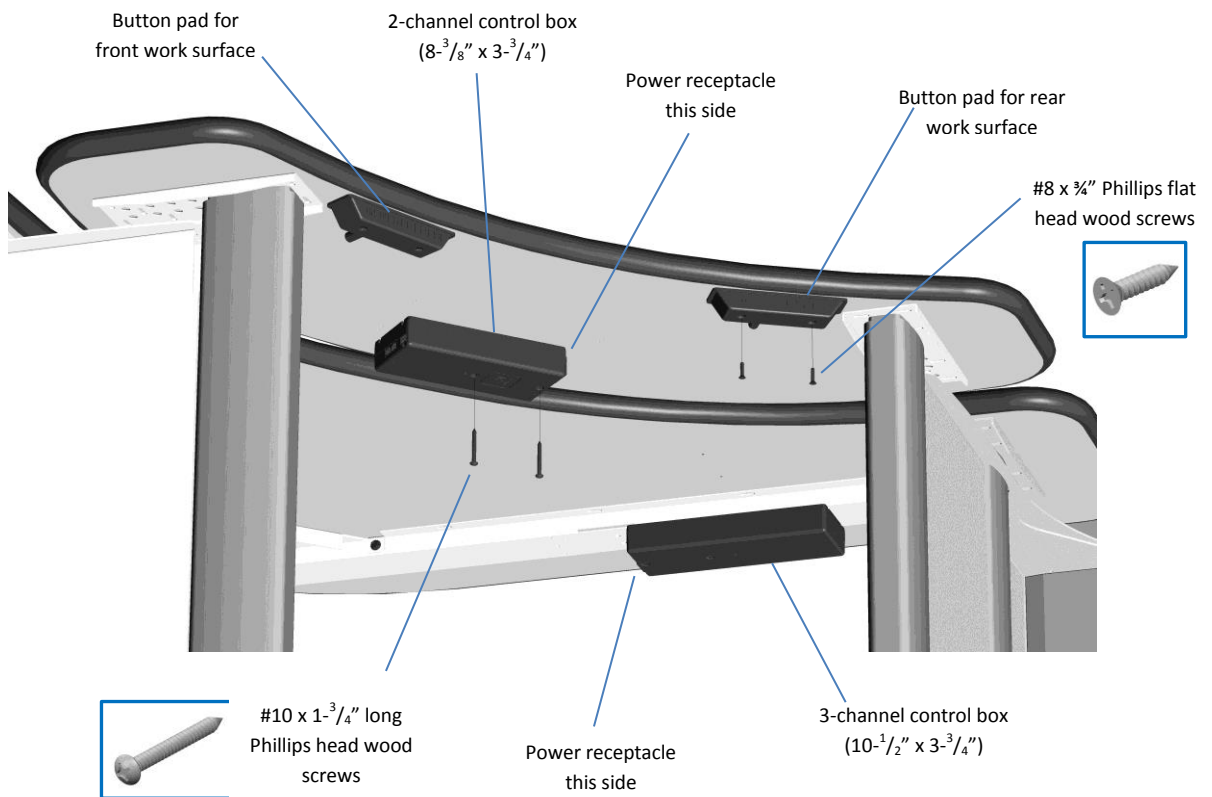

Figure 81
Mount the appropriate control boxes to the underside of the work surfaces with (2) #10 x 1-3/4" long Phillips head screws, as shown in figure 81. The rear work surface control box mounts to the right hand work surface frame channel with its power receptacle pointing left towards the center of the desk. The front control box mounts to the middle of the front work surface with its power receptacle pointing to the right.
Mount (1) button pad for each motorized work surface to the underside of the front work surface using (2) #8 x 3/4" Phillips flat head wood screws for each pad. If your corner sit-to-stand desk has only one motorized work surface, mount the control pad in the right hand position. See figure 81.